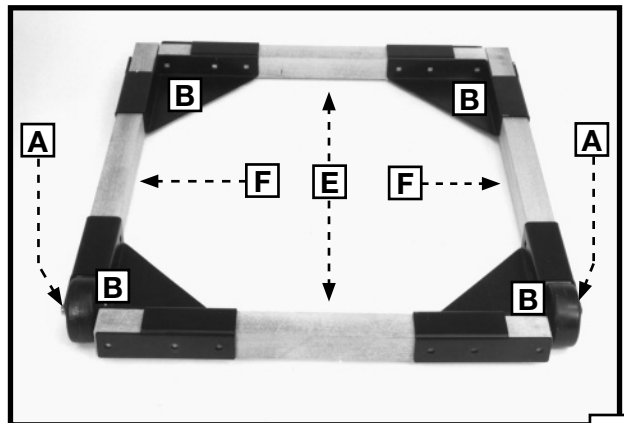
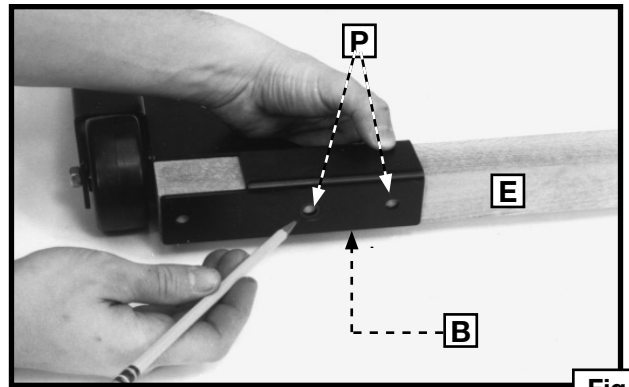

Fig. 6
Fig. 7
6. Set the pieces into the corner brackets (B) Fig. 6 as they would be positioned in the final mobile base assembly. Make certain that the side pieces (F) Fig. 6 are approximately 1/2" away from both wheels (A). Measure the inside dimensions of the mobile base set-up (Fig. 6). The measurements should closely match the dimensions of the machine. If adjustments are necessary, cut new end or side boards to fit, or adjust the position of the boards in the brackets.
- Position the end and side boards (E and F) Fig. 6 inside and flush against the top of the end brackets (B) Fig. 7. Mark the locations where you will drill $7/16"$ diameter through-holes in the wooden base boards.
NOTE: Drill four holes through the four inner areas of each bracket, two of which are shown at (P) Fig. 7. Drill a total of sixteen holes to support the boards in the four brackets.